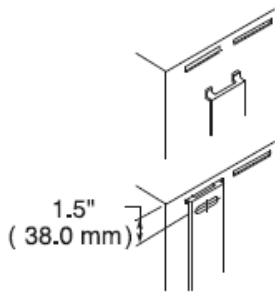

Figure 1a
3. Secure mounting brackets to vertical surface with the top mounting hole 1.5" (38 mm) below the desired top surface height (Figure 1a). Refer to Figure 2 for physical dimensions and Figure 3 for required installation clearances. Mounting brackets are to be spaced to match the slots in the rear panel of heater cabinet.